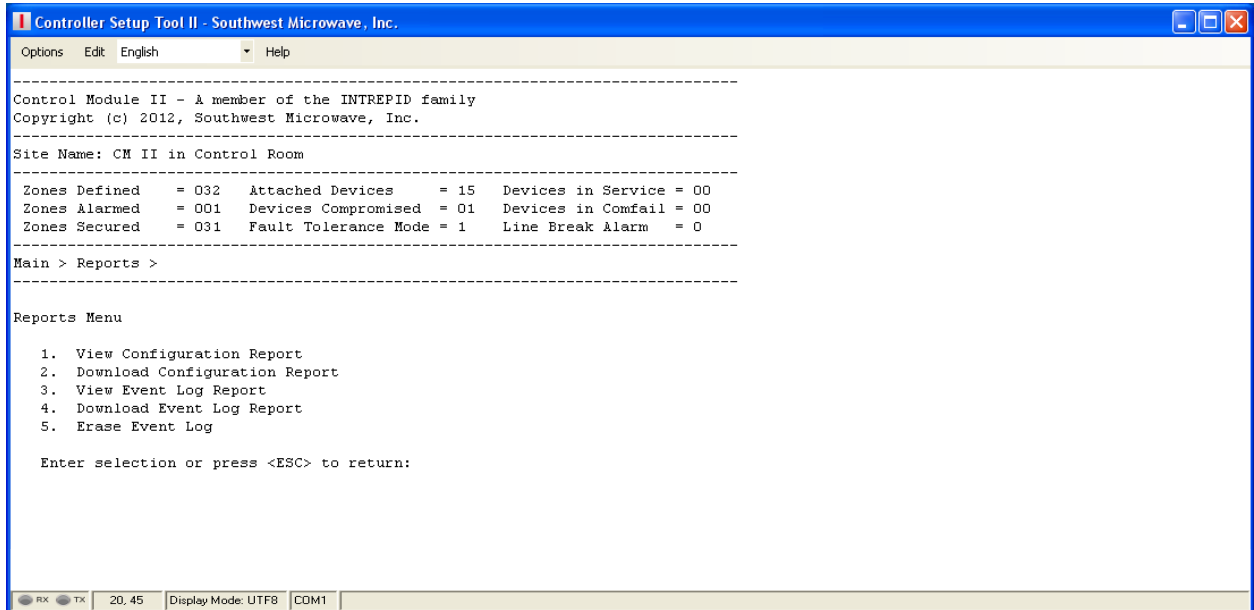

Figure 48 – Reports Screen
Selecting command “4” from the Main Menu will open the “Reports” screen as shown in Figure 48. There will be five (5) command selections available: View Configuration Report, Download Configuration Report, View Event Log Report, Download Event Log Report and Erase Event Log.